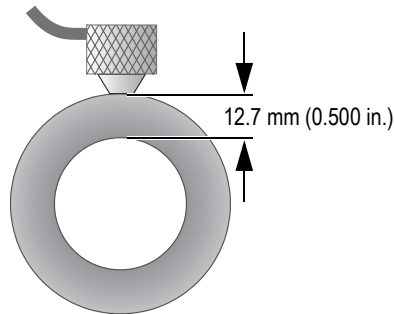

Figure 5-11 Coupling a dual element transducer
- Using moderate to firm pressure, couple the tip of the transducer to the surface of the test material, and keep the transducer as flat as possible on the material surface (see Figure 5-11 on page 74).